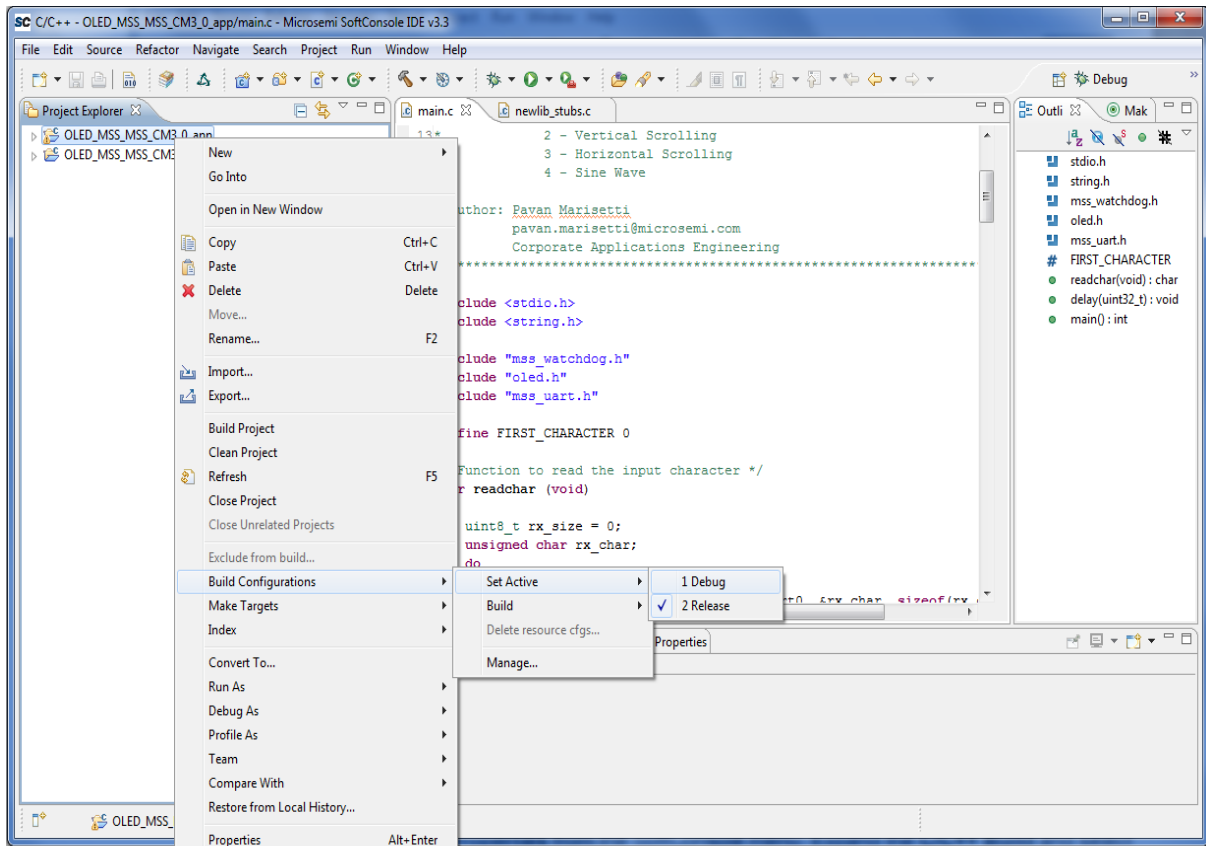

Figure 2 · Configuring Release Mode
2. Right click on both project names in the Project Explorer view and select **Build Configurations > Set Active > Release** as shown in Figure 2 .